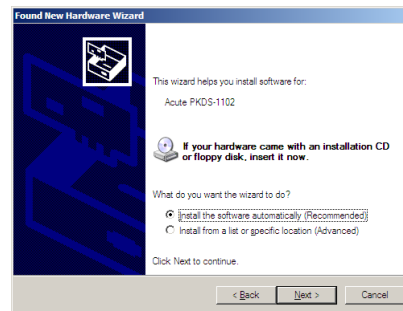

Figure 2
- (3) Choose “Install the software automatically” (Recommended) to find the proper driver automatically (Figure 2). Click “Next”.
- (4) Click “Next” when a driver is found.